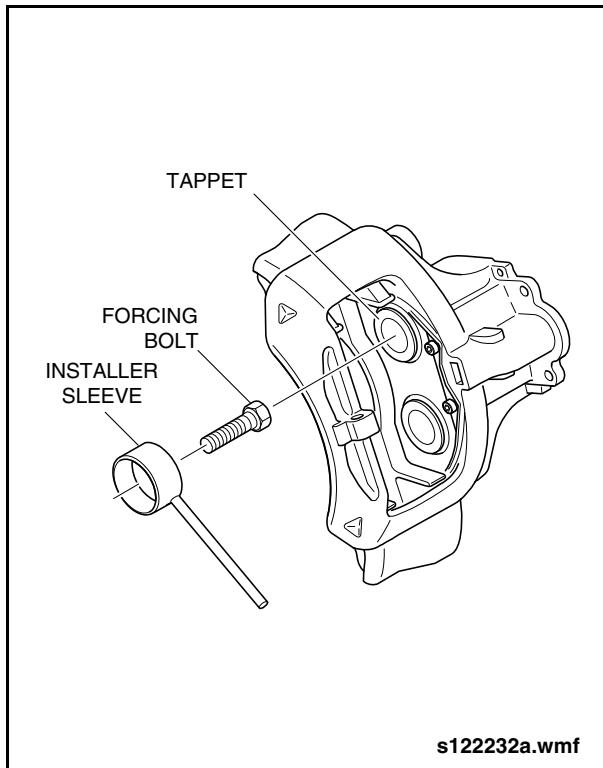

Fig. 2-138: Seating Tappet Against Stop
10. Reverse the position of the installer sleeve so that the open end is facing away from the tappet and boot assembly and the head of the forcing bolt is facing the tappet. See "Fig. 2-138: Seating Tappet Against Stop" on page 118.